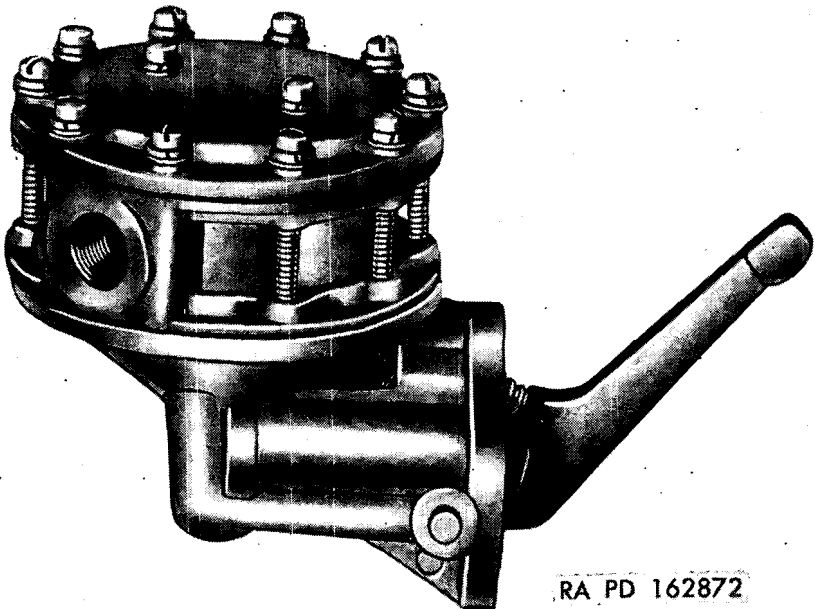

Figure 46. Fuel pump, series BF and BM.
- (1) Mark edges of cover and body of series BF and BM fuel pumps (fig. 46) with a file. The parts may then be assembled in the same relative positions.
- (2) Remove only outer circle of screws and lock washers. Separate body from cover at diaphragm flange near body. If cover sticks, it can be jarred loose with a light plastic hammer.